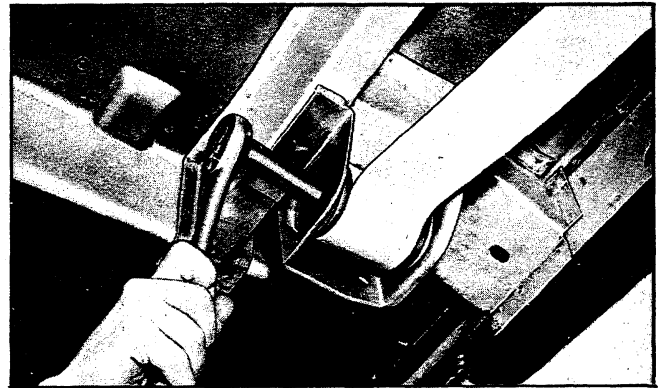

Fig. 19—Removing Front Eye Bushings (Chevy II)
3. Loosen and drive out front spring eye bolt. Lower spring and remove front rubber eye bushing (fig. 19).